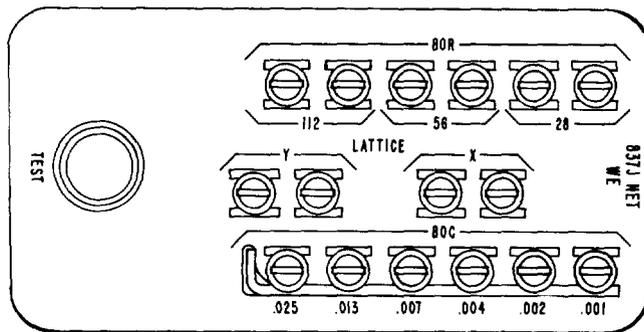

Fig. 1—837J Network
1.01 This section contains a description of the 837J network. The 837J is an impedance compensator for use on 25-gauge H88 loaded metropolitan area trunk (MAT) cable at locations with terminal balance requirements. A sketch of the 837J network is shown in Fig. 1.